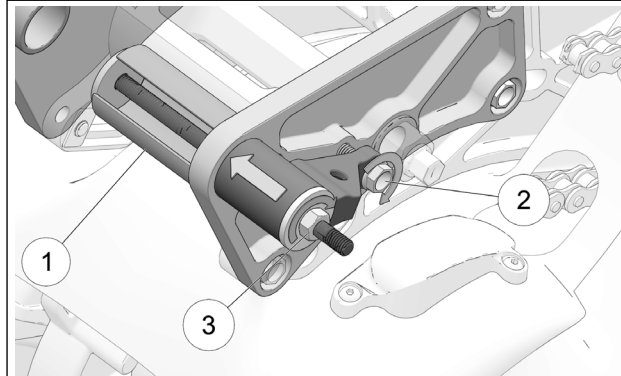

Figure 15
- Using the provided Mount adapter insertion tool (1) and the M8x25mm bolts (2), rotate and alternate between the tool's nut (3) and bolt (2) to insert mount adapters on both sides of the Bike Mount. See Figure 15.